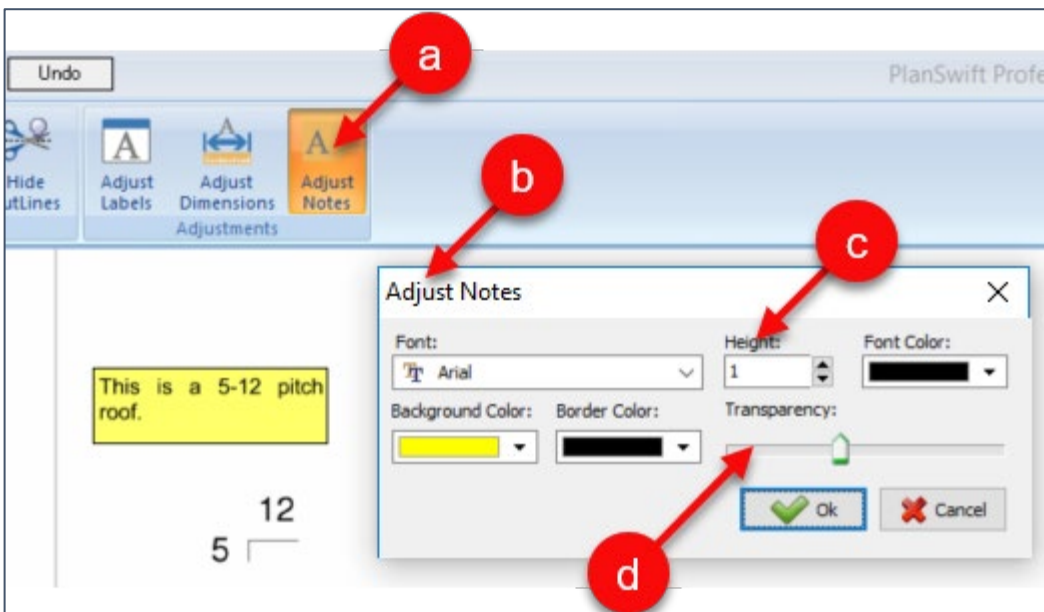

Figure 49-D
2. The **Adjust Dimensions** button changes the properties of dimension lines (Fig. 49-E). To change the properties of a dimension line: